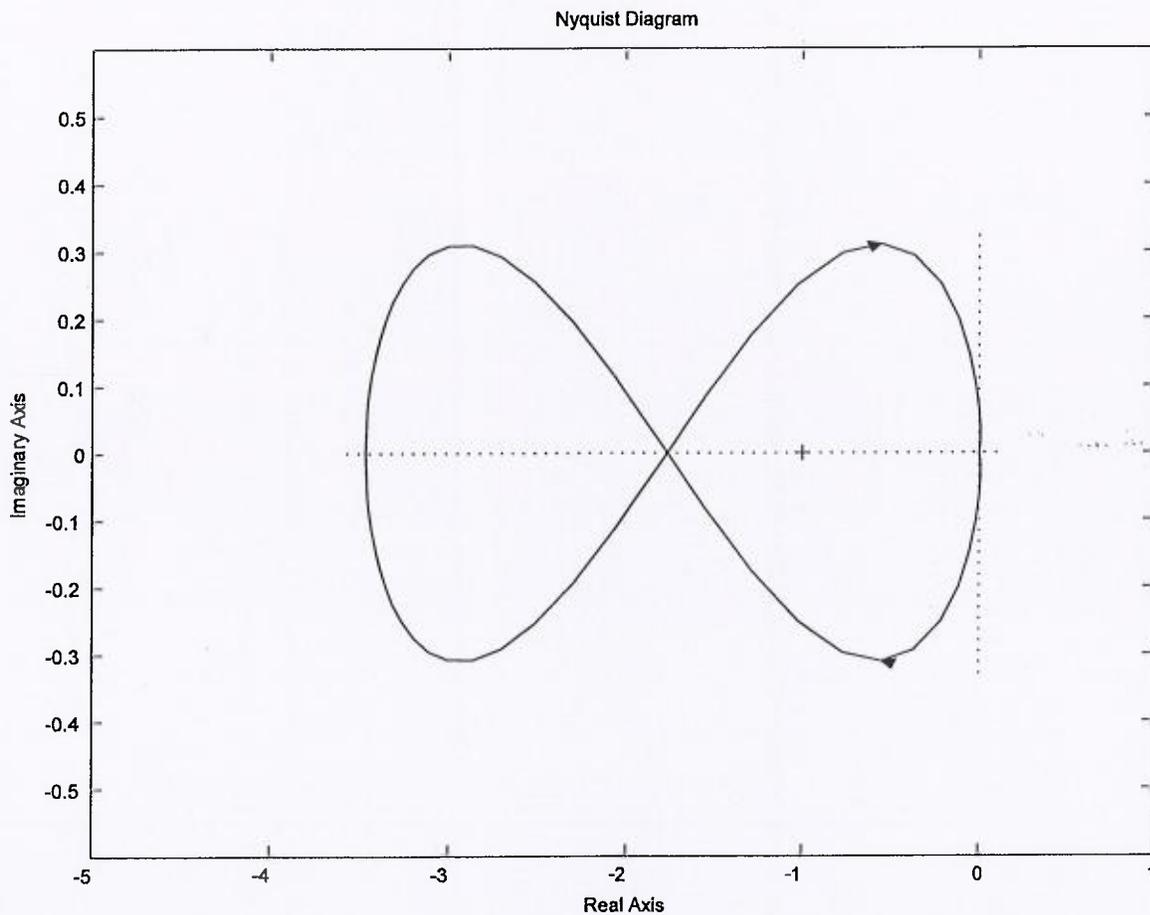

Figure Q8.2
A certain open loop control system has **three poles** on the left-hand side of the s-plane (i.e. in LHP), and **one pole** on the right-hand side (i.e. in RHP). The corresponding Nyquist diagram was generated using a clockwise (CW) Γ path in the s-plane, and is shown in Figure Q8.2.